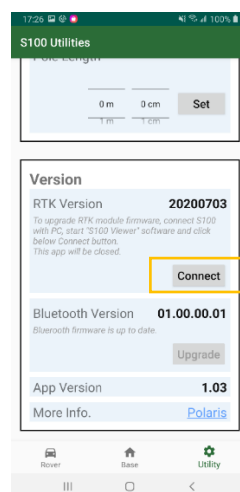

Figure 6-3
3. On Polaris Connect app, click Connect button on Utility-Version screen, this enables S100 RTK Receiver's firmware to be updated. The app will then be closed. See Figure 6-3.